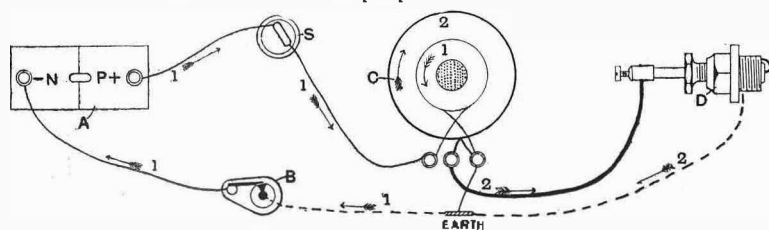

Fig. 4.—Diagram of the wiring of the two circuits.
matic switch completing the primary circuit at a given moment, which is variable. This variation of timing is usually known as advancing or retarding the spark. Fig. 4 gives a diagrammatic illustration of the wiring of a coil, the arrows indicating the direction of the flow of the current. It will be seen that the current leaves the accumulator A by way of the positive pole +, and runs through the commutator B, thence to the terminal P+ of the coil. A switch is included in this part of the circuit, but is not shown.
To show the manner in which the two distinct circuits, i.e., the high and low tension, are completed, it will be necessary to refer to fig. 4, which shows one method of arranging the wiring. In this, A is the accumulator upon which the positive and negative terminals are marked P+ and N—respectively. The arrows indicate the direction in which the current flows. To P+ the wire is connected which runs to a switch S, thence to one of the three terminals upon the coil, the particular terminal being the one marked P+. The current then traverses the primary winding (1), the coil C being conducted from the terminal M by a wire to some metallic part of the car or the engine, and using earth as a part of its circuit. At the com-